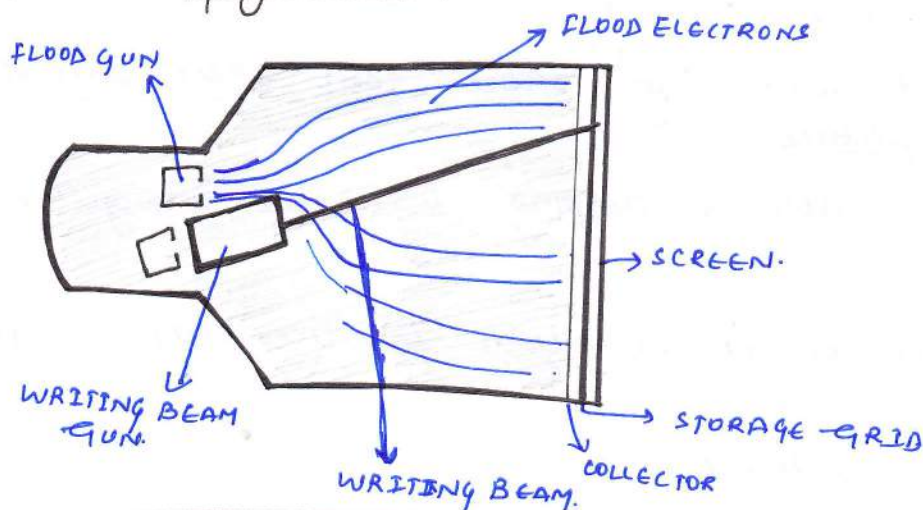

Fig. 3. The direct-view storage tube
The general arrangement of the DVST is shown in detail in Fig. 3.
- Additional bit planes can be used for each of the 3 color guns. ~~A schematic of a multiple-bit-plane color frame buffer,~~ A simple color master frame buffer is shown schematically in fig. 3.